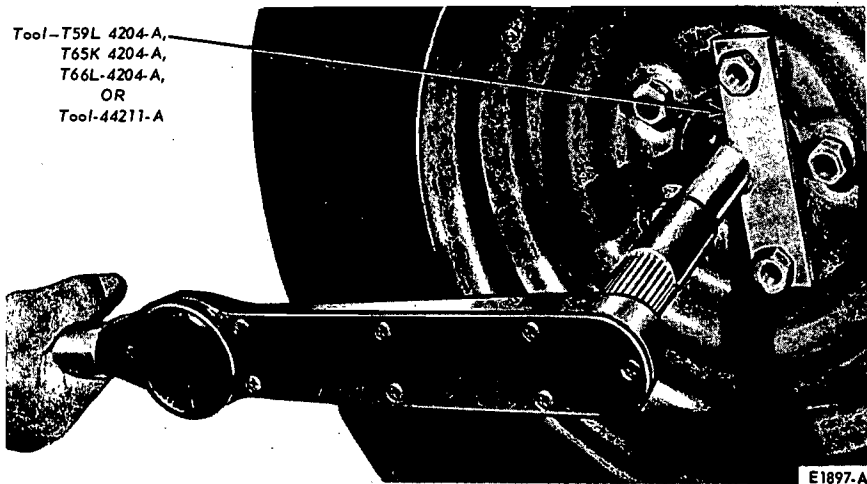

FIG. 5—Checking Parking Brake Breakaway Torque
ft-lb breakaway torque. The breakaway torque is the torque required to turn the rear wheels the direction of forward rotation with a torque wrench and tool shown in Fig. 5. **The torque measurement must be made relative to the center line of the wheel.**
4. Loosen the lock nut and turn the adjusting nut forward against the equalizer (Figs. 3 and 6) until there is 100 ft-lbs breakaway torque. The breakaway torque is the torque required to turn the rear wheels the direction of forward rotation with a torque wrench and tool shown in Fig. 5. **The torque measurement must be made relative to the centerline of the wheel.** Tighten the lock nut.